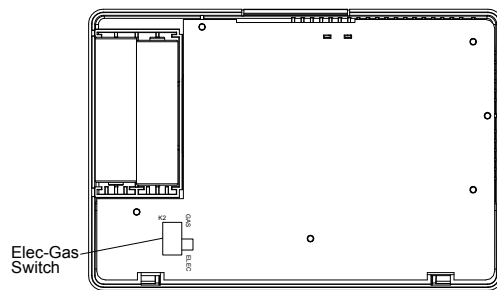

Figure 1. Electric/Gas Switch (Fan Option)
This thermostat is configured from the factory to operate a heat/cool, fossil fuel (gas, oil, etc.), forced air system. It is configured correctly for any system that DOES NOT require the thermostat to energize the fan on a call for heat. If your system is an electric heat or heat-pump system that requires the thermostat to turn on the fan on a call for heat, locate the ELEC/GAS switch on the back of the thermostat (see fig. 1) and switch it to the ELEC position. This will allow the thermostat to energize the fan immediately on a call for heat. If you are unsure if the heating/ cooling system requires the thermostat to control the fan, contact a qualified heating and air conditioning service person. When the thermostat is configured for Heat Pump, the thermostat will always power the circulator fan on a call for heat in the HEAT mode. The ELEC/GAS switch must be set to match the type of Auxiliary heat your system uses for proper operation in the EMERGENCY mode. All wiring diagrams are for typical systems only. Refer to equipment manufacturers' instructions for specific system wiring information.
- Fasten base loosely to wall, as shown in fig. 1, using two mounting screws. Place a level against bottom of base, adjust until level, and then tighten screws. (Leveling is for appearance only and will not affect thermostat operation.) If you are using existing mounting holes, or if holes drilled are too large and do not allow you to tighten base snugly, use plastic screw anchors to secure subbase.